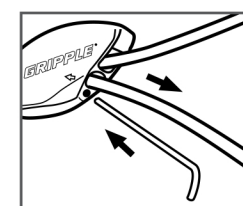

FIGURE 11: RELEASE CABLE
8. Insert key into small hole at bottom of Gripper. Push in 1/4" to release the cable. (See figure 11).